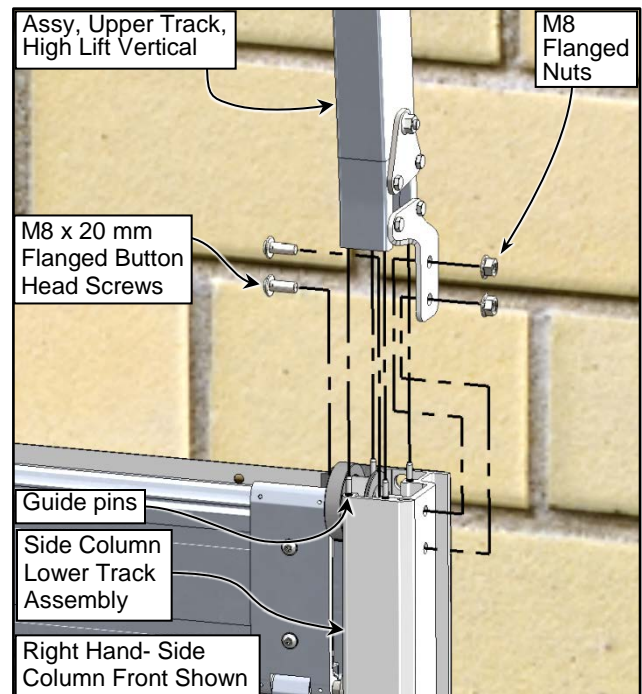
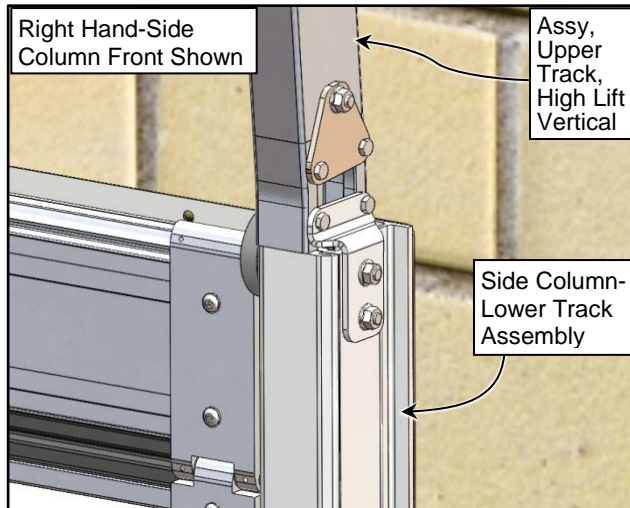
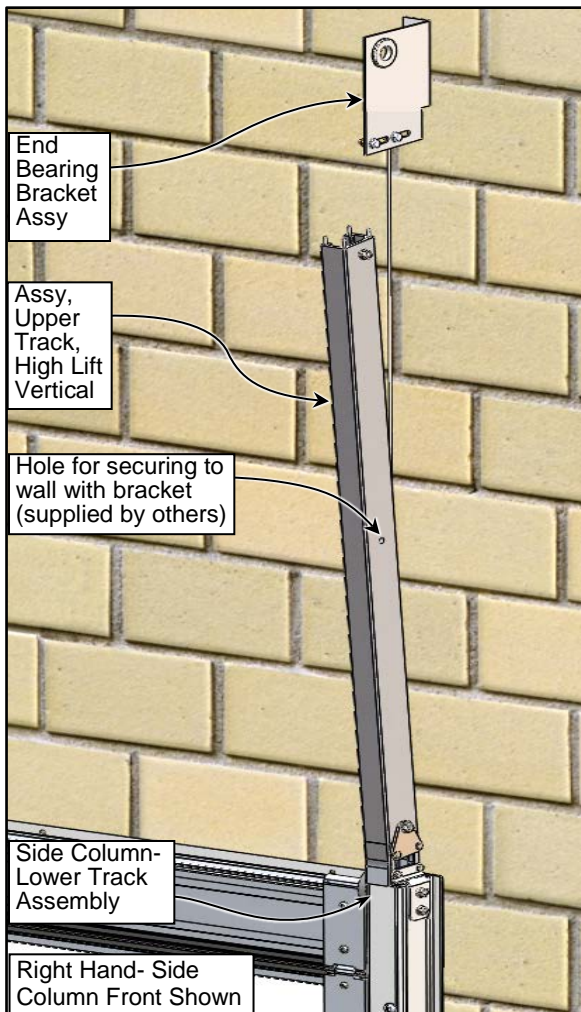

Figure 48
Figure 49
Figure 50
2. Confirm that guide pins are installed in the guide rails (tracks). (See Figure 48)
3. Identify, locate, and orient the High Lift Upper Track Vertical Assembly for each side. This includes the upper track transition bracket sub-assembly, vertical track section, locating pins, and fasteners. (See Figure 48 Figure 49, & Figure 50)
4. Install on both lower track-side column assemblies as shown and make sure the assembly is fully aligned & inserted onto the locating pins of the lower track assembly. Secure the vertical track section to the wall as necessary. (See Figure 48 Figure 49, & Figure 50)